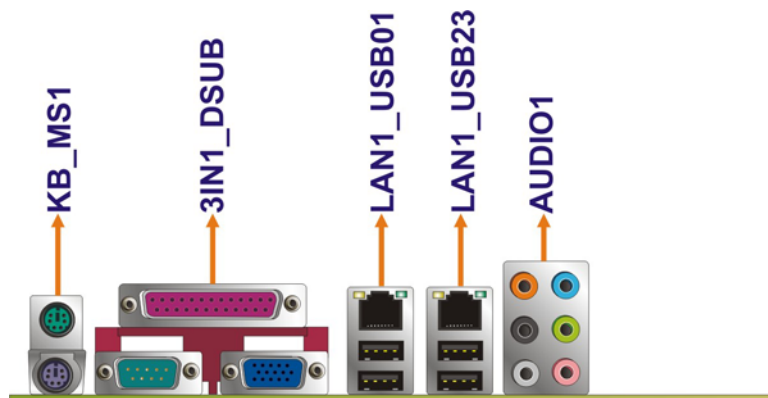

Figure 4-21: IMBA-XQ354 External Interface Connectors
Figure 4-21 shows the IMBA-XQ354 motherboard external interface connectors. The IMBA-XQ354 on-board external interface connectors are shown in **Figure 4-21**:
CN Location:	See Figure 4-21
- CN Location:** See **Figure 4-21**